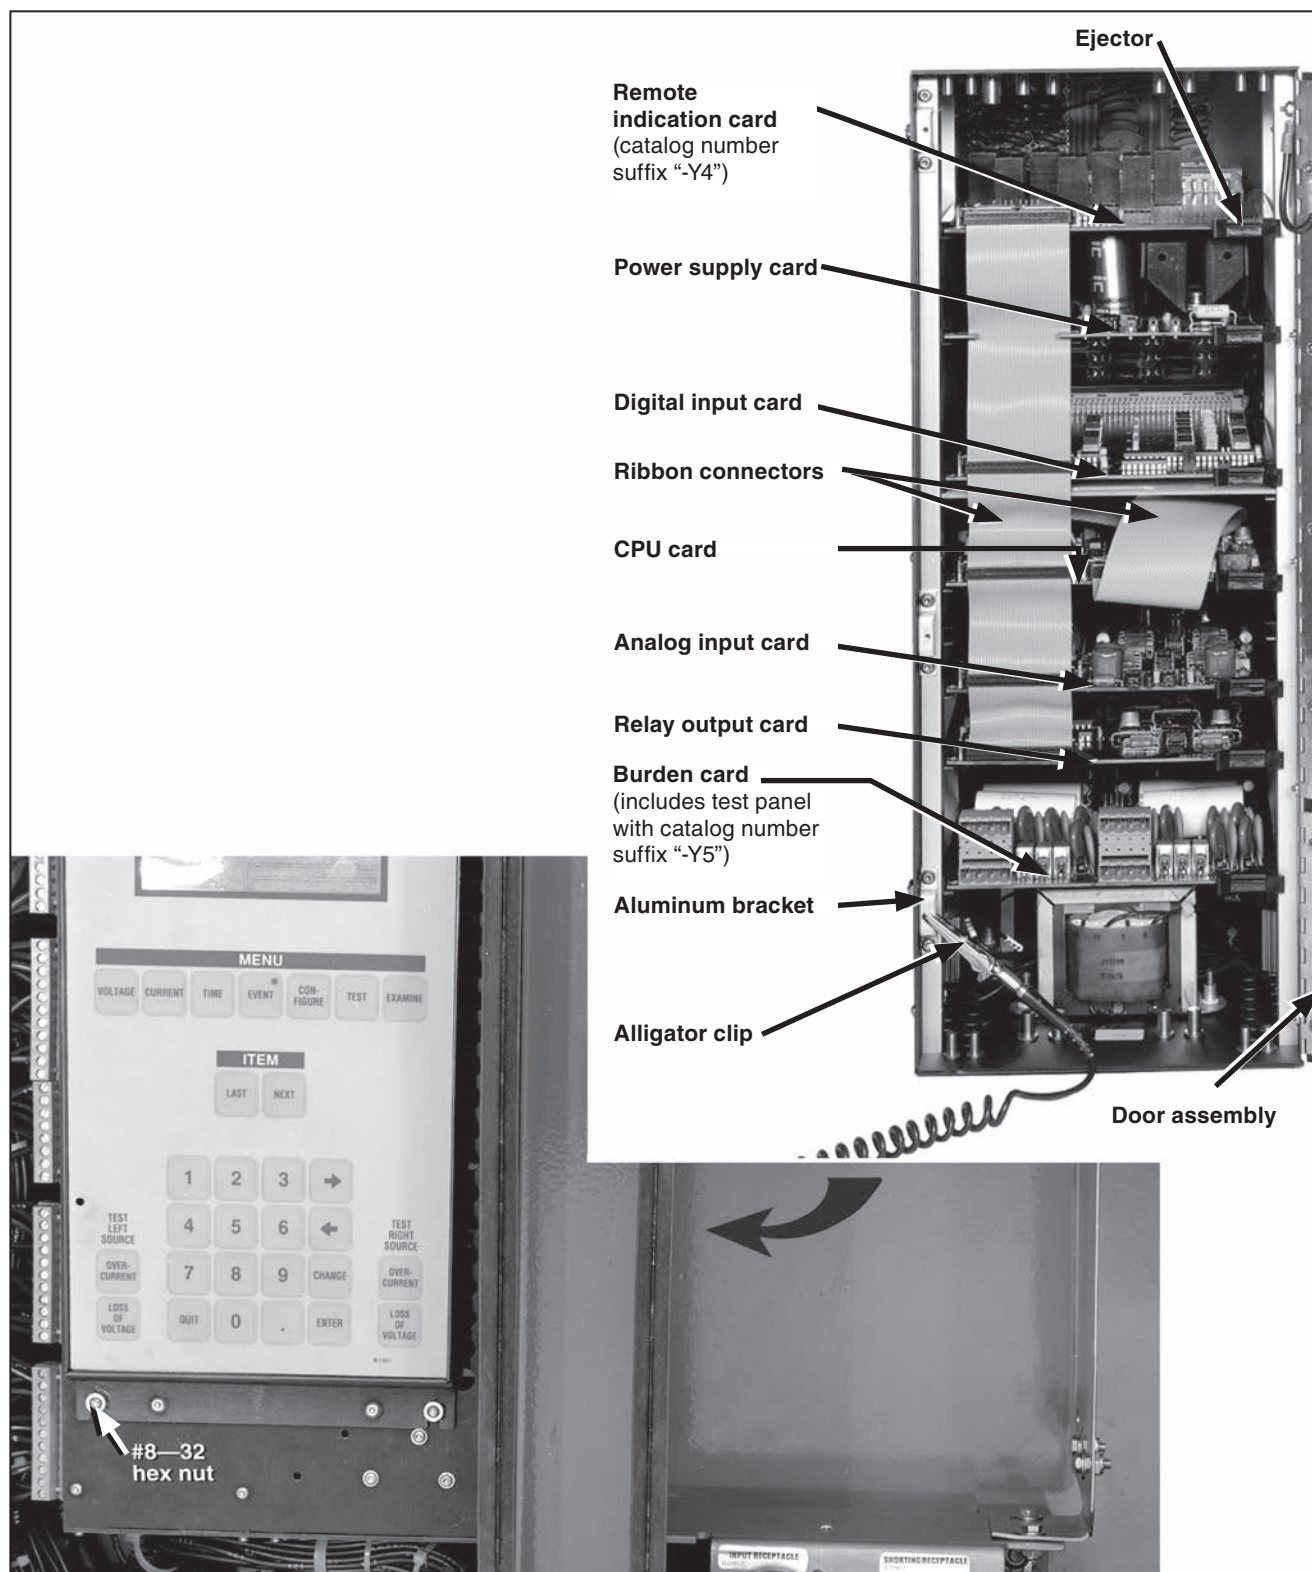

Figure 5. A circuit card and front panel assembly arrangement in pad-mounted gear originally furnished with a Type AT-12 Source-Transfer Control.
- STEP 1.** With the access cover assembly on the right-hand side of the low-voltage control compartment removed, as shown in Figure 5 on page 13, loosen the two screws that retain the door assembly of the source-transfer control enclosure and swing open the door assembly. See Figure 5, inset.
- STEP 3.** Attach the alligator clip on the shorter of the two wire leads to one of the three aluminum brackets on the source-transfer control enclosure. See Figure 5, inset, on page 13. The lowest bracket is generally the most convenient to use.
- STEP 5.** *If a circuit card is to be replaced:* Replace the affected circuit card using the following procedure. See Figure 5, inset, on page 13. In most instances it will be necessary to carefully disconnect one or more of the ribbon connector plugs from their receptacles on the circuit cards to access a particular circuit card.
- With the access cover assembly on the left-hand side of the low-voltage control compartment removed, as shown in Figure 5 on page 13, remove and retain the four #8–32 hex nuts that secure the front panel assembly to the source-transfer control enclosure.
- Attach the replacement front panel assembly to the source-transfer control enclosure using the four #8–32 hex nuts removed earlier. See Figure 5 on page 13.